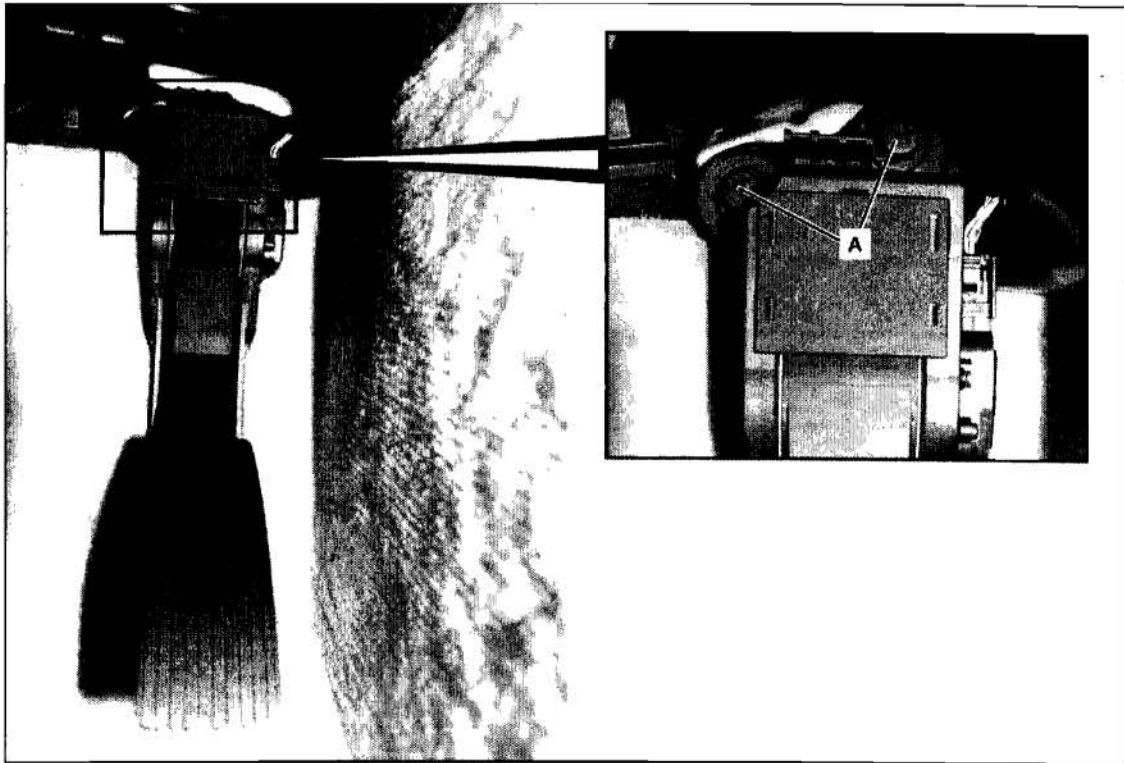

Figure 2
2. Visually check if accelerator pedal nuts (A, Figure 2) have been installed.